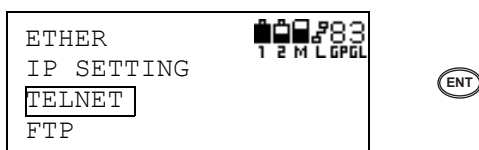

Figure 3-87. Select Telenet Setting and Press Enter
3. On the ETHER screen, select TELNET and press **ENT** (Figure 3-87).